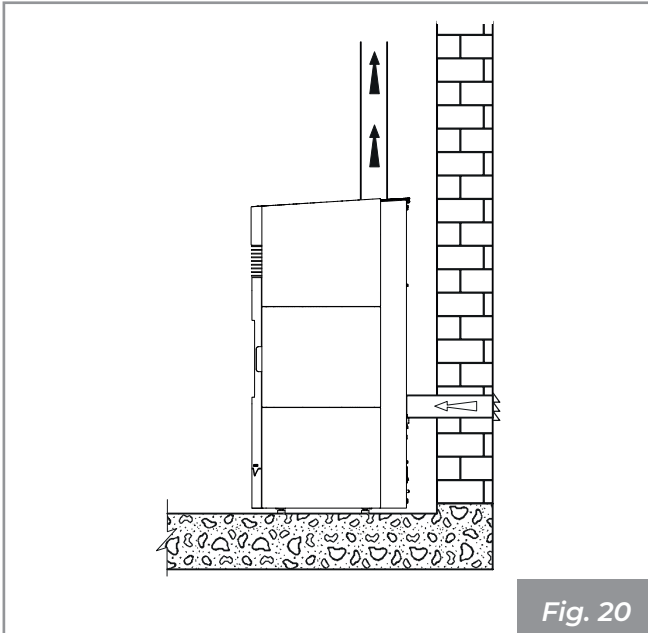
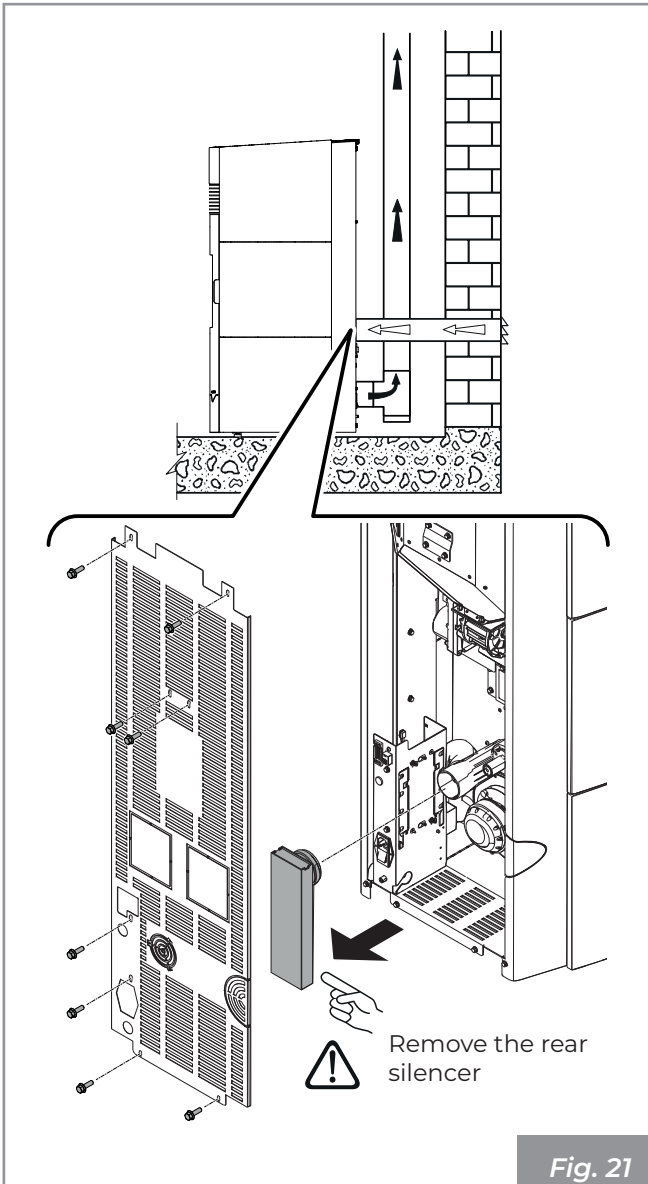

Fig. 20
Fig. 21
- it can come directly from outside with direct connection to the combustion chamber (**Fig. 18 - Fig. 21**).
- to connect the combustion air inlet of the appliance to the air intake using a special pipe (**Fig. 20 - Fig. 21**).